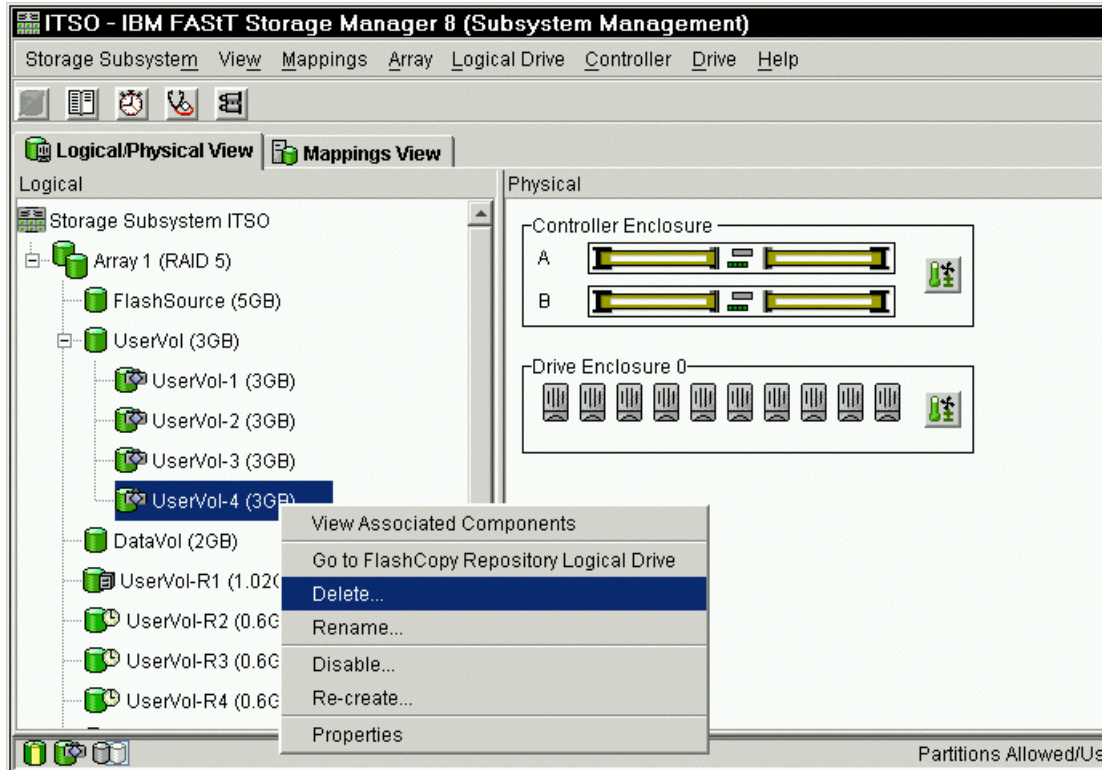

Figure 5-31 Deleting the FlashCopy logical drive
2. Click **Logical Drive-> Delete**, or right-click and select **Delete**, as shown in Figure 5-31.